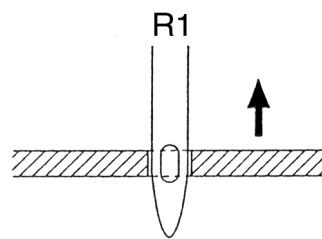

Fig. 13
- Turn the handwheel in the normal direction until the needle eye is positioned in accordance with fig. 13.